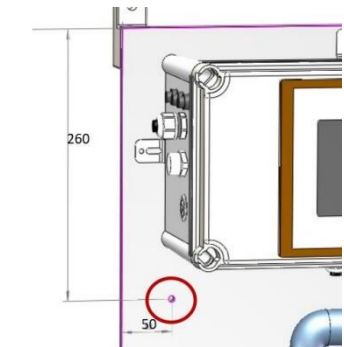

Figure. 8
8. In accordance with the dimensions shown, punch a 6mm diameter hole in the panel, as shown in Figure.8